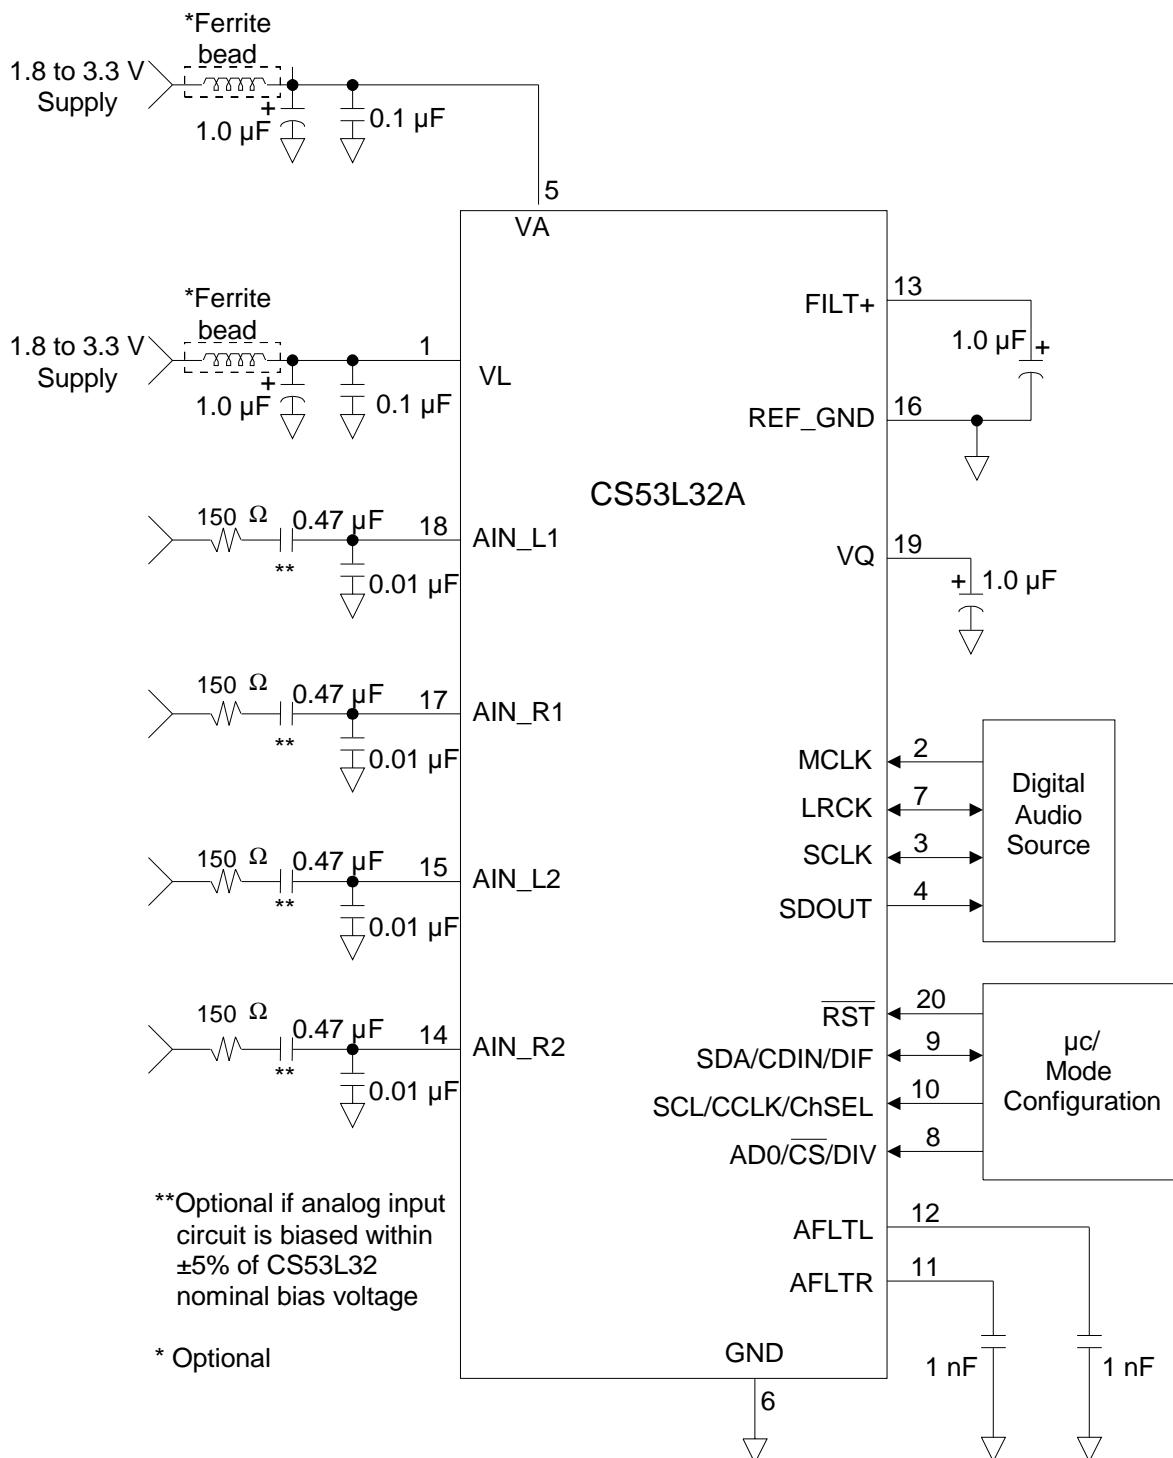

Figure 5. Typical Connection Diagram
- 7. Valid with the recommended capacitor values on FILT+ and VQ as shown in Figure 5.